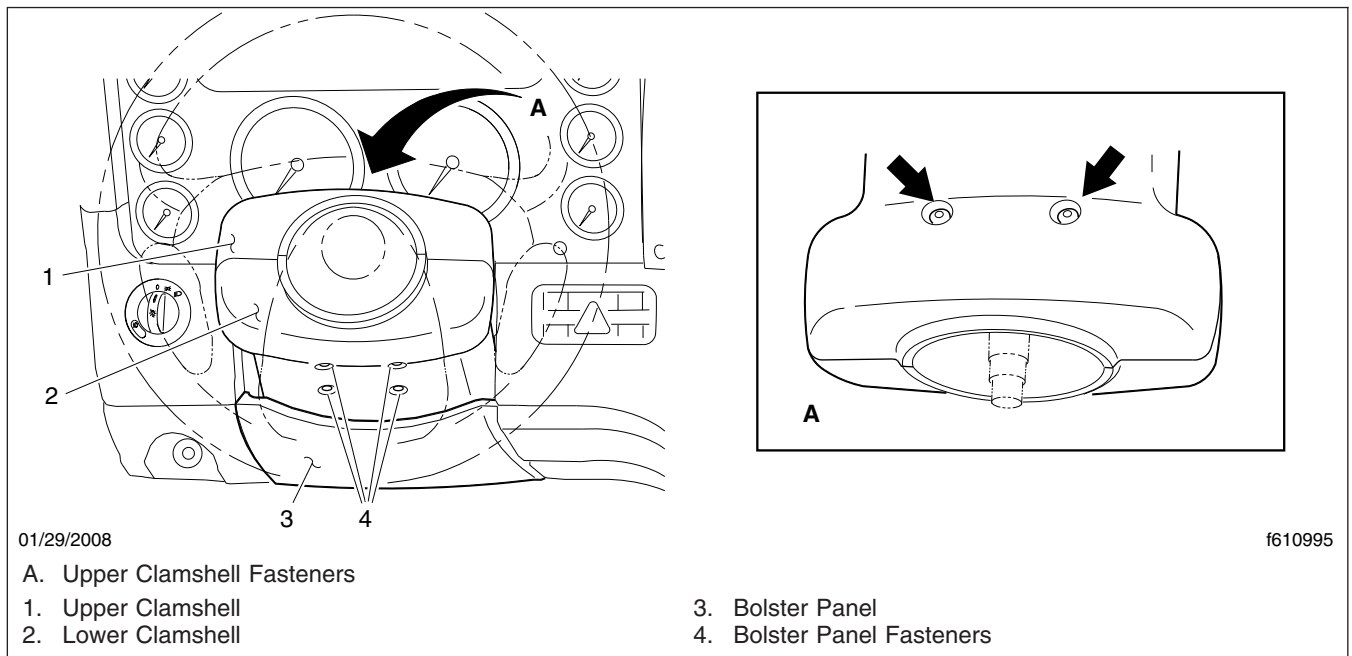

Fig. 3, Removing the Steering Column Trim Panels
7. Remove the steering column bolster panel, and clamshell. See **Fig. 3**.